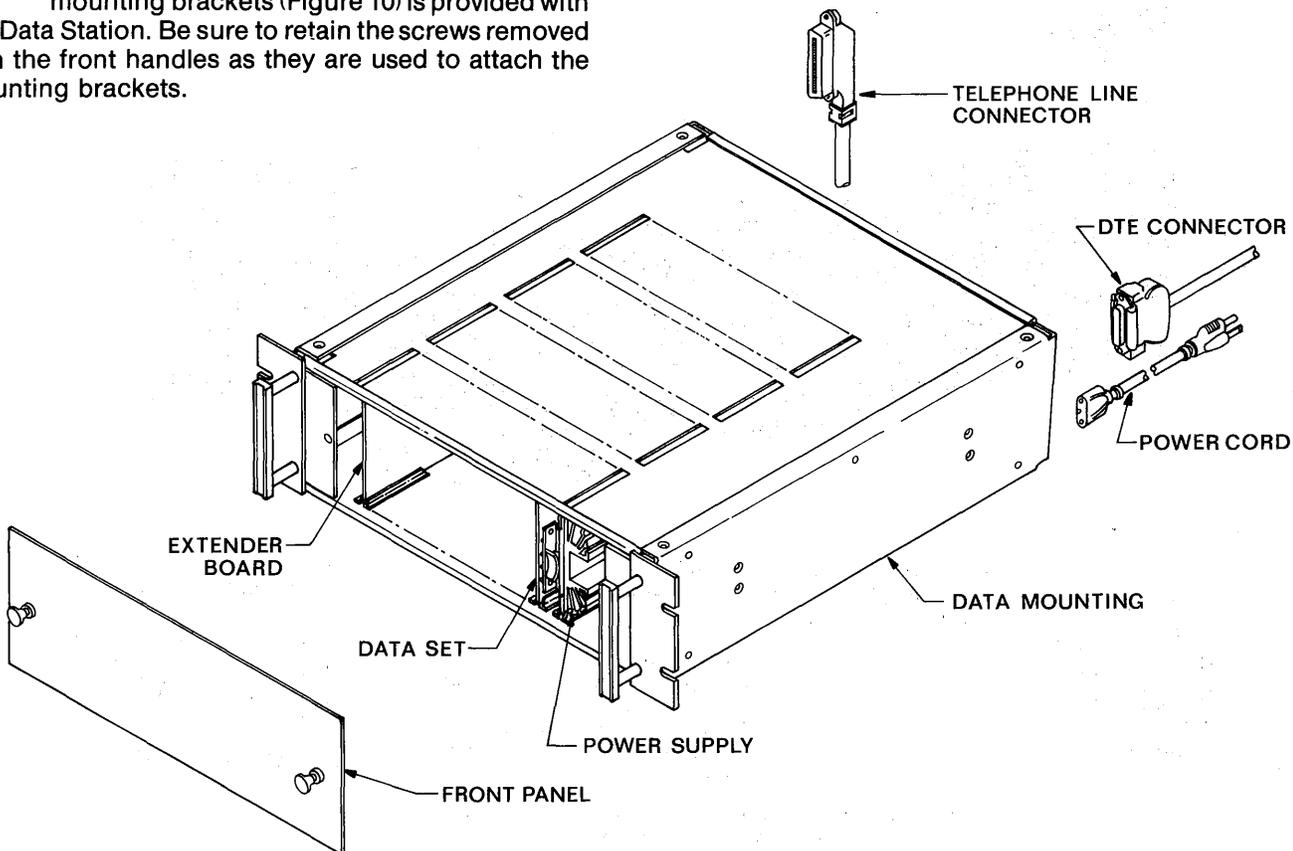

Figure 11, Data Station Components (One Channel)
4.08 Interface connections are made with two types of connectors that plug into receptacles mounted on the rear panel (Figure 11). Each channel installation requires a data set board, a connection to the DTE, and a connection to the network via the telephone tip/ring (T/R). DTE receptacles correspond to the eight channel positions. Up to eight incoming telephone T/R pairs are interfaced through the telephone line connector.
4.14 Figure 11 shows a typical one-channel data station installation; the procedure described here is applicable for all installations. Select one of the eight channel positions available and make note of that number (N). The channel connections are given in Table F.